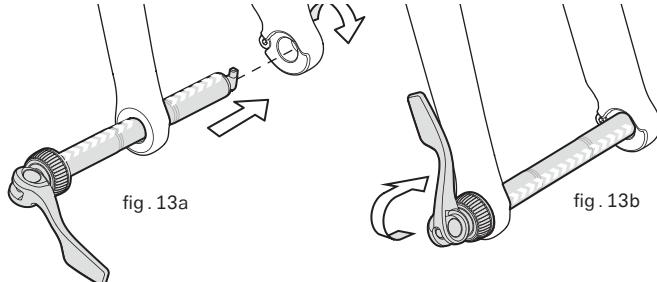
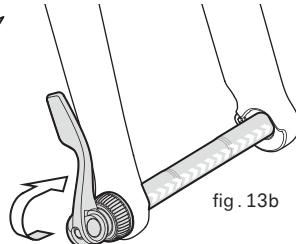

fig . 13a
fig . 13b
6. If your bike has the **Cervélo Rapid Axle mechanism**, move the preload lever to the OPEN position (fig. 11b). Carefully insert the wheel between the fork blades, ensuring that the disc rotor properly slots between the brake pads as it slots into the caliper until the hollow axle lines up with the holes in the fork dropouts. The preload lever should be on the right side of the bicycle. Slide the axle through the fork dropout and wheel hub with the arrows facing up until it contacts the dropout on the left side of the fork. Visually align the T-End of the thru-axle with the insert slot on the left side of the fork, then turn the preload lever clockwise 90° until the T-End is stopped by the insert. (fig. 13a). Move the preload lever into the CLOSED position (fig. 13b). The lever should now be parallel to the fork blade and curved toward the wheel.